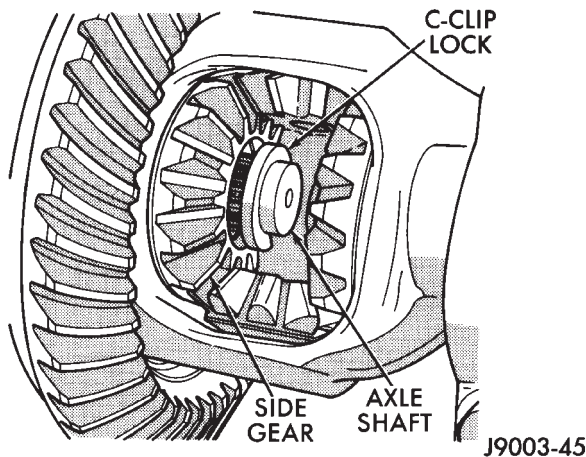

Fig. 20 Axle Shaft C-Clip Lock
(7) Push axle shaft inward and remove axle shaft C-clip lock from the axle shaft (Fig. 20).